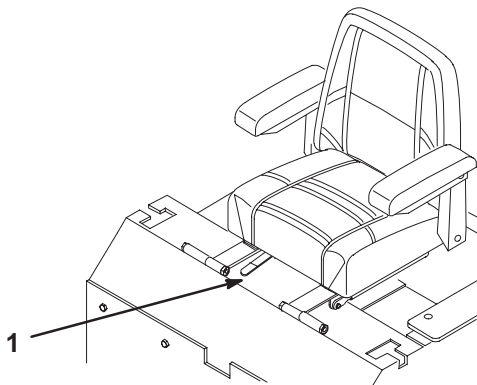

Figure 23
- To adjust, move the lever sideways to unlock seat (Fig. 23).